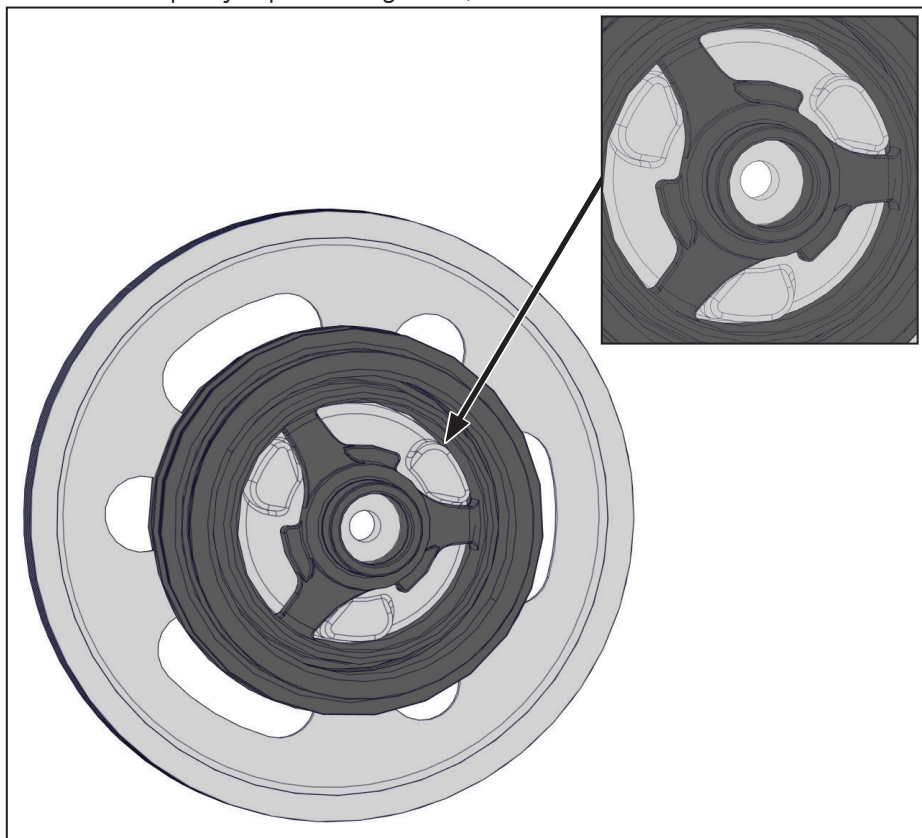

Figure 34 — Engage VMAC crank pulley lugs on OEM pulley
- Rotate the VMAC crank pulley counterclockwise until the lugs on the back of the pulley are tight against the OEM pulley spokes and tighten the bolt sufficiently to hold the pulley in position (Figure 34).